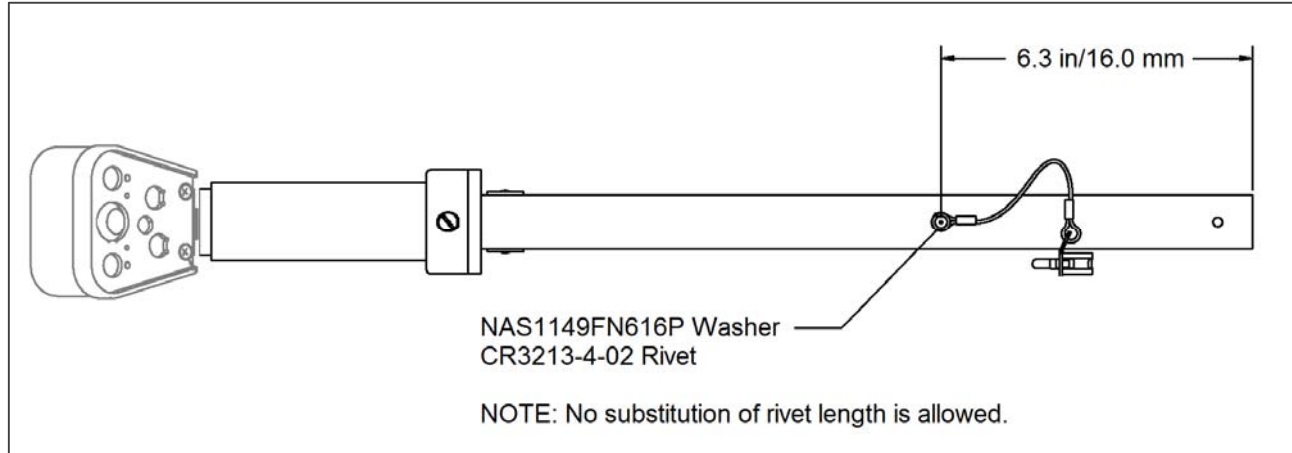

Figure 3. Lanyard Mount Hole Location
- 6.8 Drill a $\text{\O}.$ 129/.132 hole through the wall of the collective stick in the location shown in Figure 3. Deburr the hole.